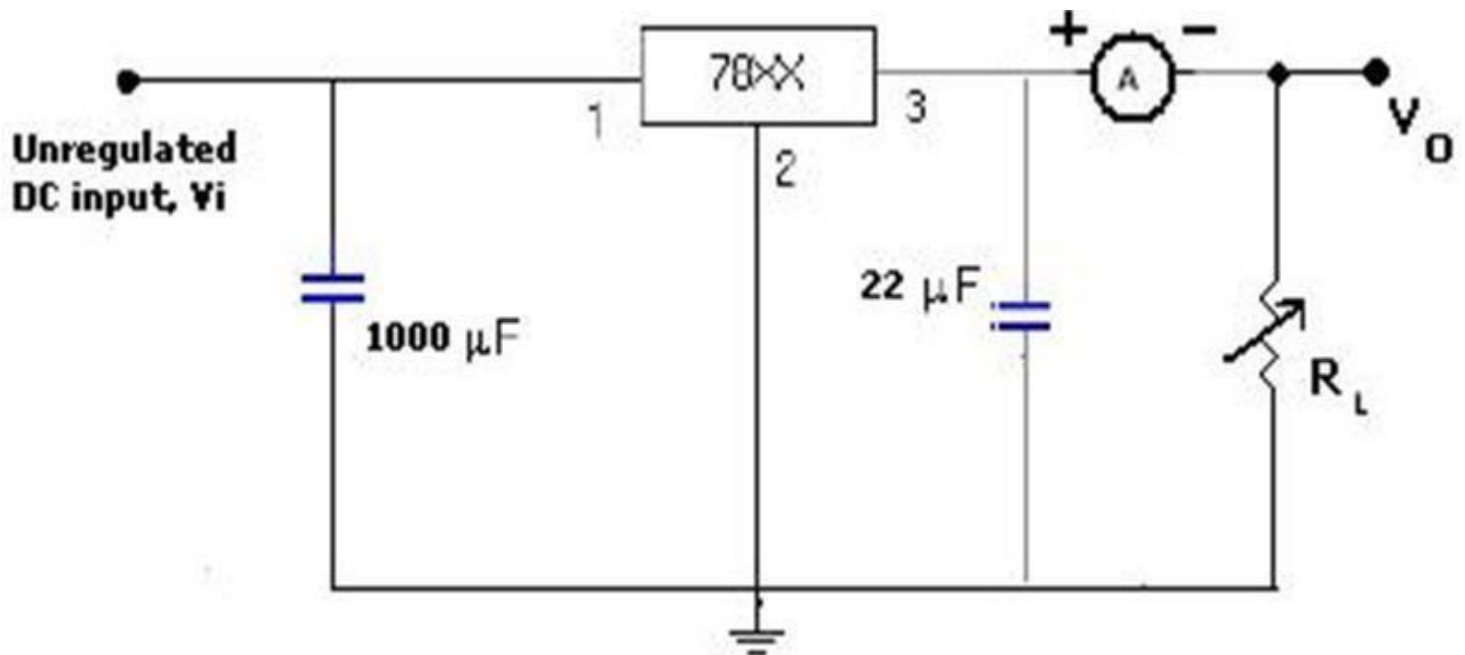

Figure.1 Fixed Positive Voltage regulator
1. Connect the circuit diagram as shown in figure.1.